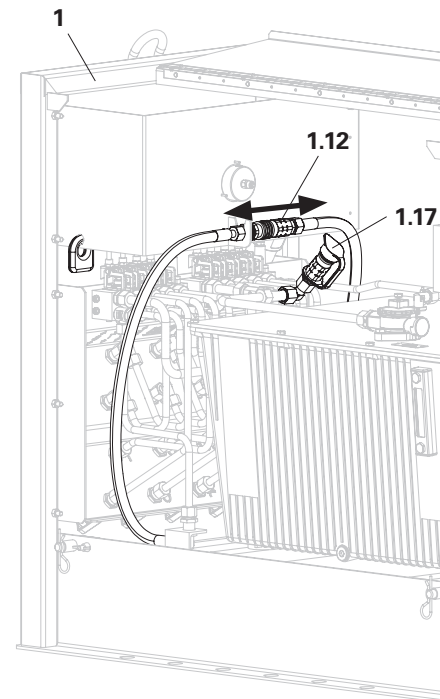
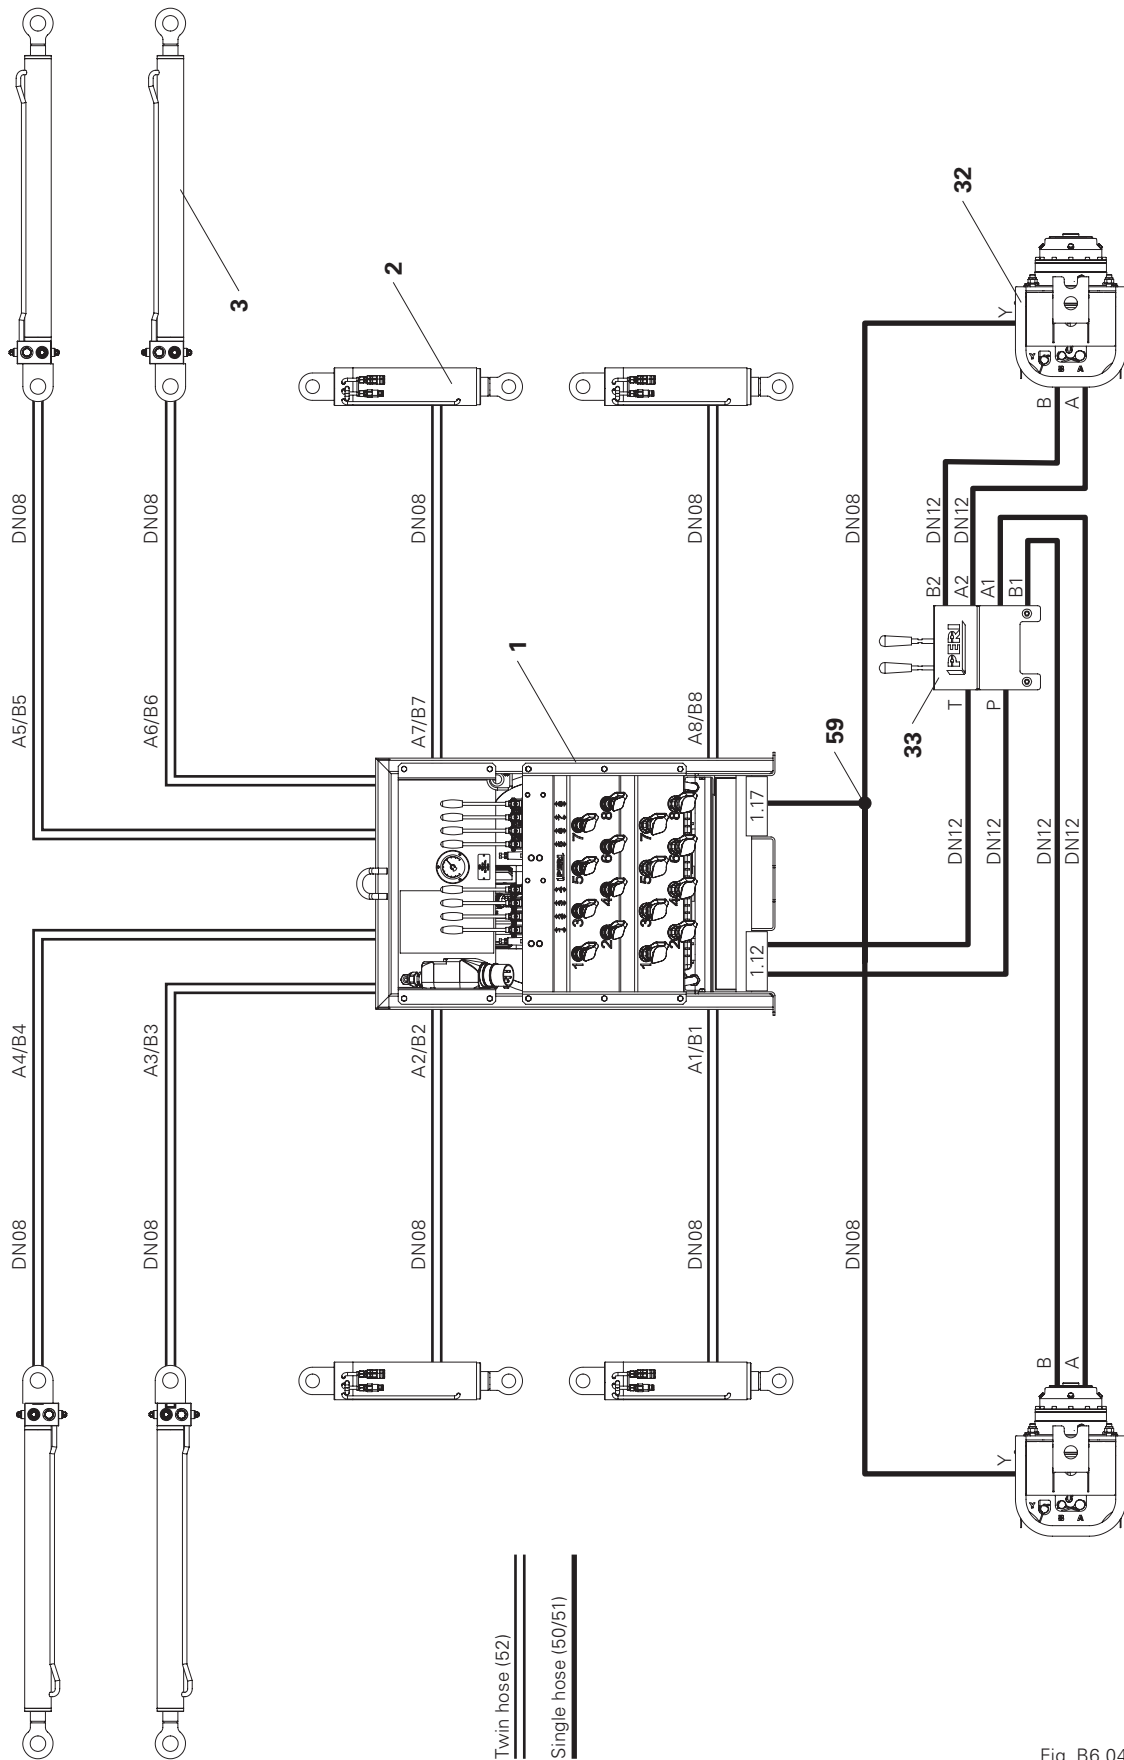

Fig. B6.03
Fig. B6.04
1. Open the hydraulic unit (1). (Fig. B6.03)
6. Connect the Hydr.T-Piece 2SN-DN08-FF (59) to the leakage oil connection and guide the two hose ends forwards out of the hydraulic unit.
7. Connect the hydraulic traversing drive as shown in Fig. B6.04.
2. Connect the hydraulic cylinders (2 + 3) to the hydraulic unit (1) as shown in Fig. B6.04.